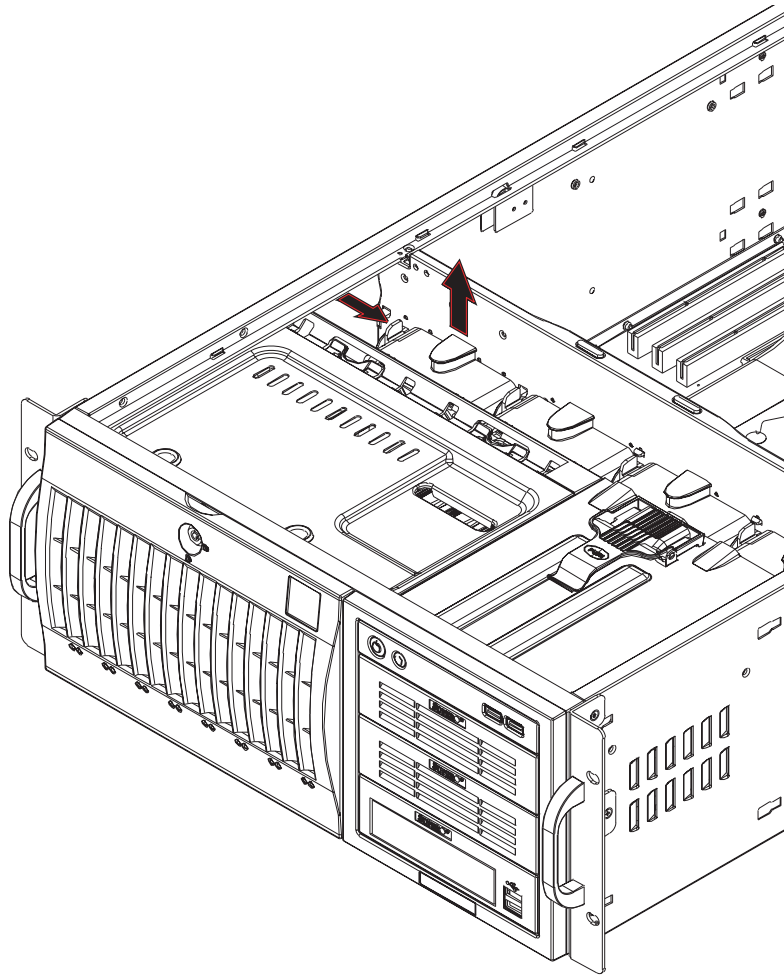

Figure 3-9. Removing/Replacing a System Fan
3. With the tab depressed, pull the unit straight out (see Figure 3-9). The wiring for these fans has been designed to detach automatically.